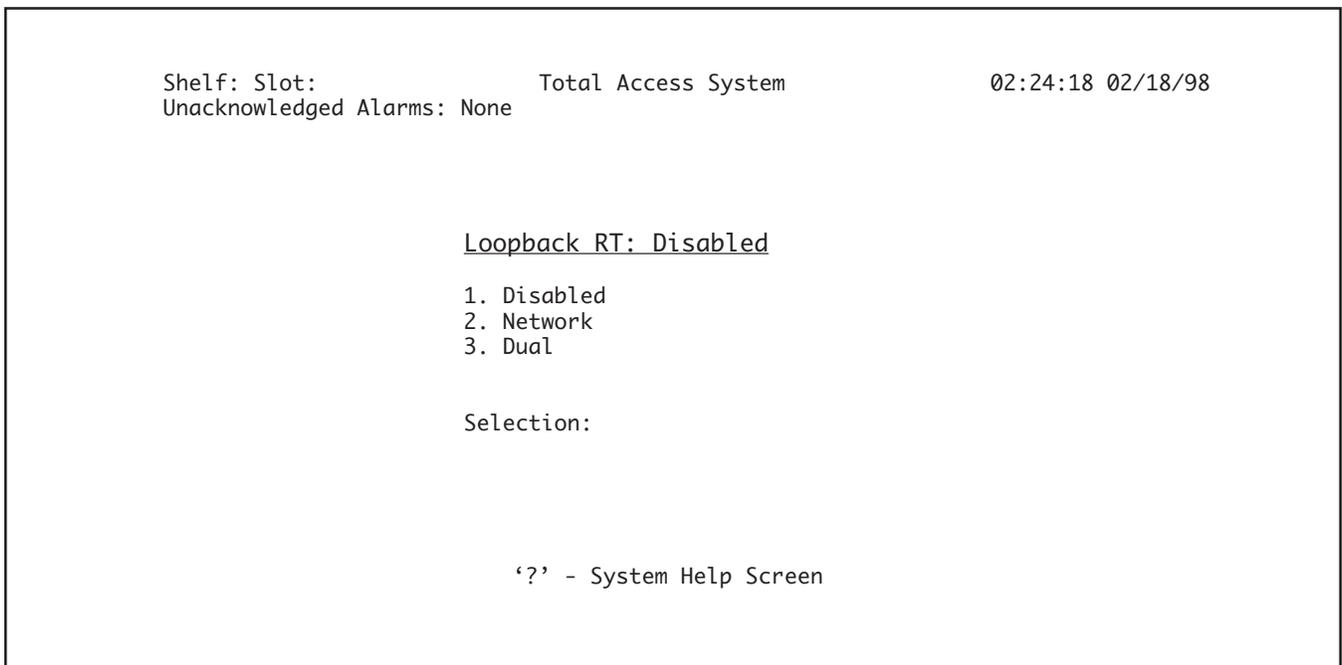

Figure 30. Loopback RT Screen
2. Type “1” and press Enter for remote loopback testing. Type “2” and press Enter for network loopback testing. **Figure 30** displays the Loopback RT screen. Type the number of the desired remote test and press Enter.